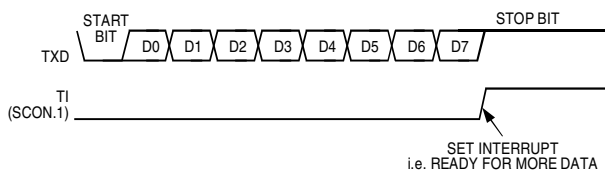

Figure 42. UART Serial Port Transmission, Mode 0.
Transmission is initiated by writing to SBUF. The 'write to SBUF' signal also loads a 1 (stop bit) into the ninth bit position of the transmit shift register. The data is output bit by bit until the stop bit appears on TXD and the transmit interrupt flag (TI) is automatically set as shown in Figure 42.